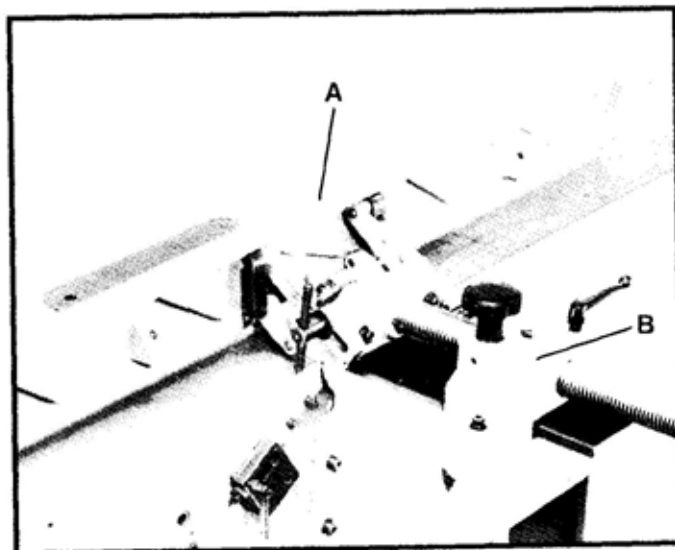

Fig. 18
2. Fig. 18, illustrates the fence (A) properly mounted to carriage assembly (B).